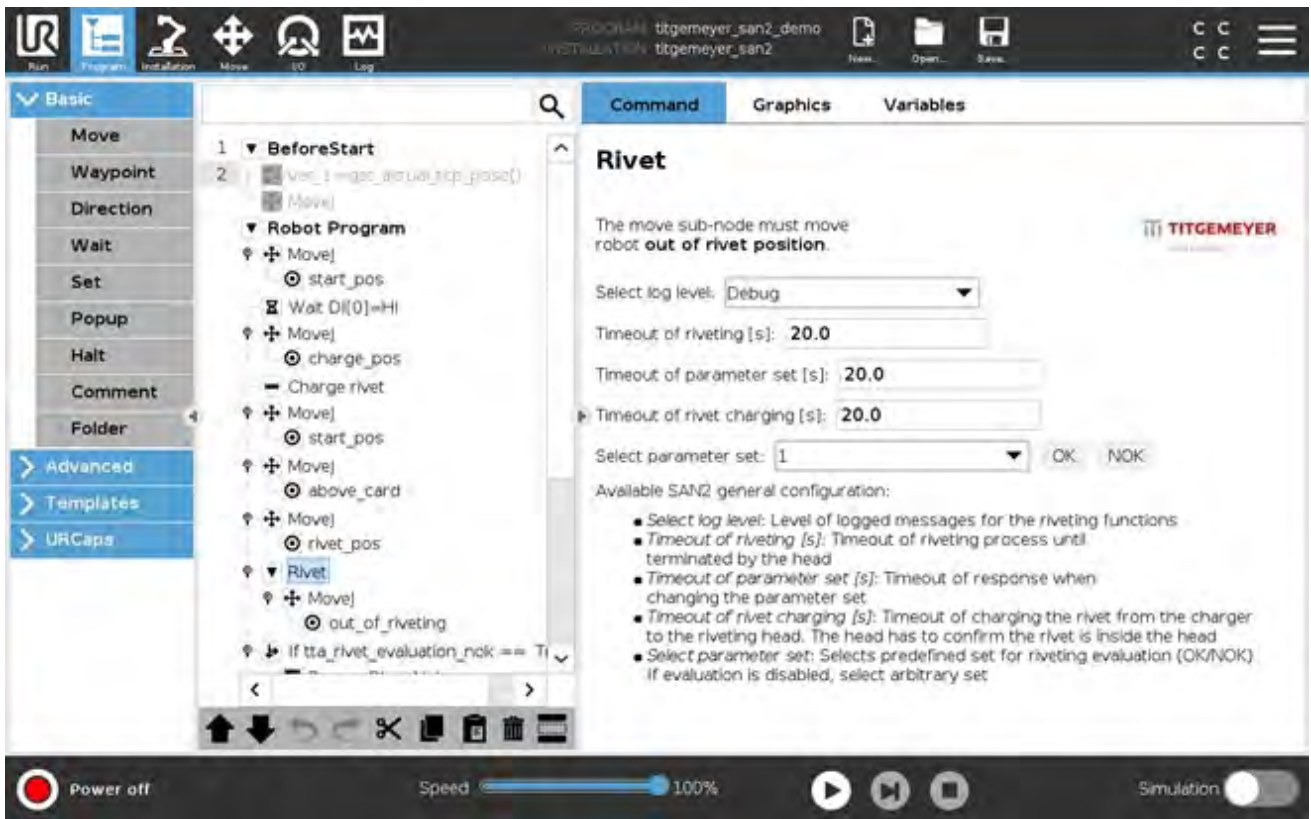
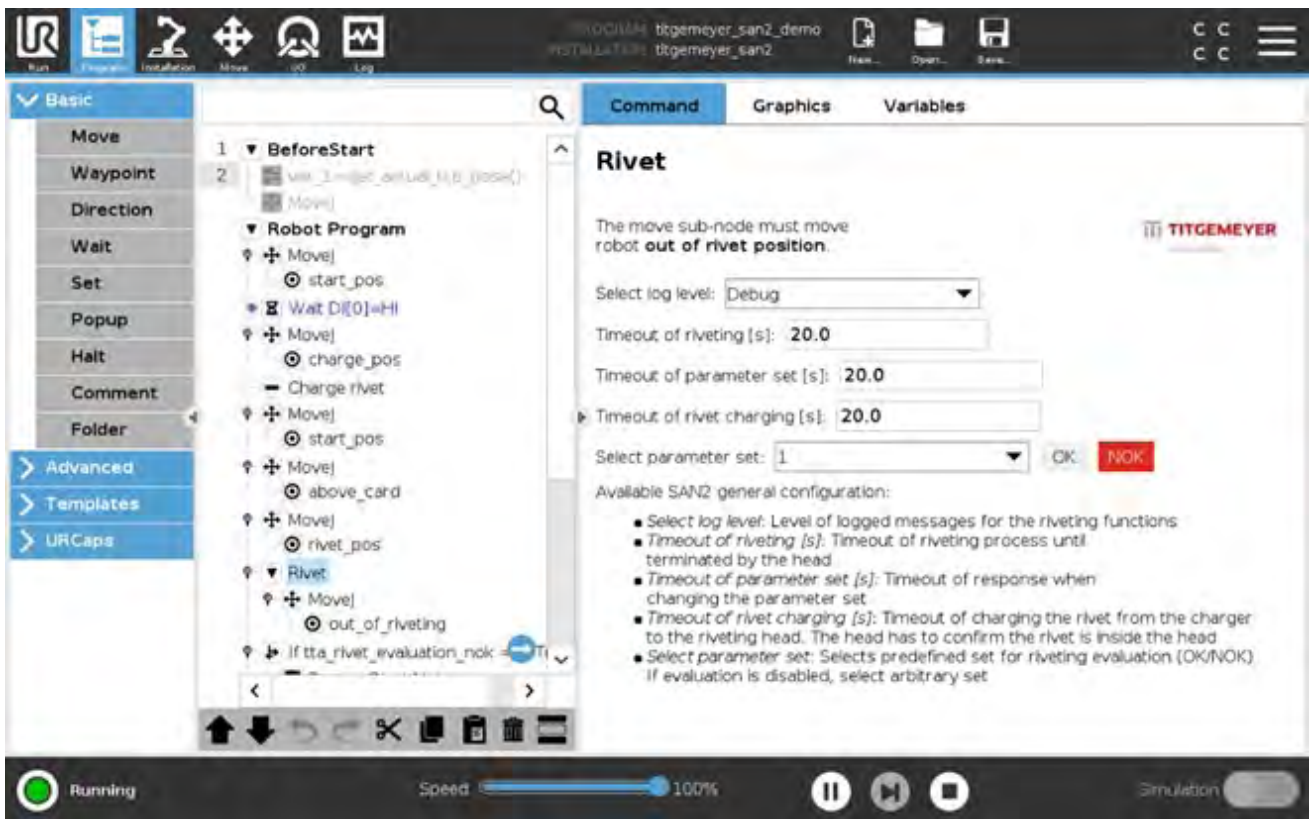
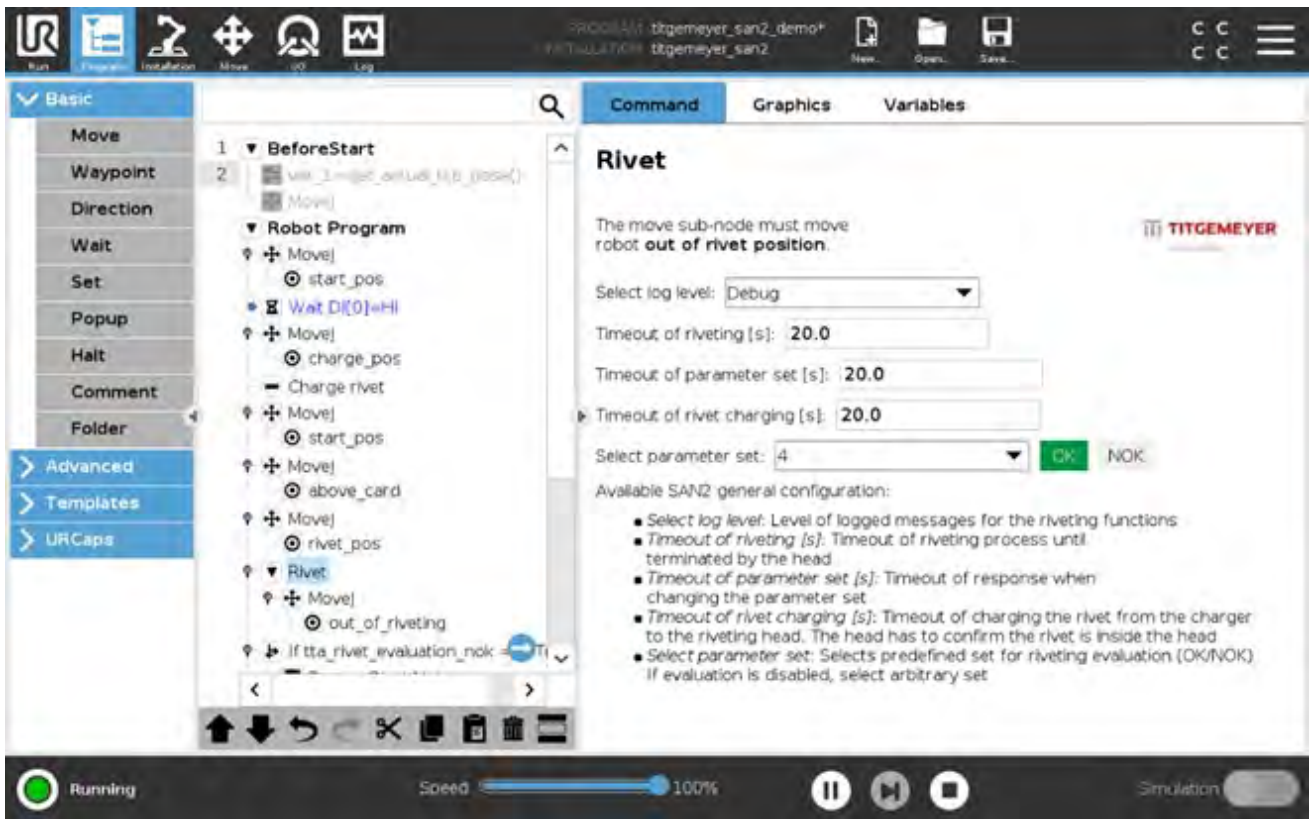
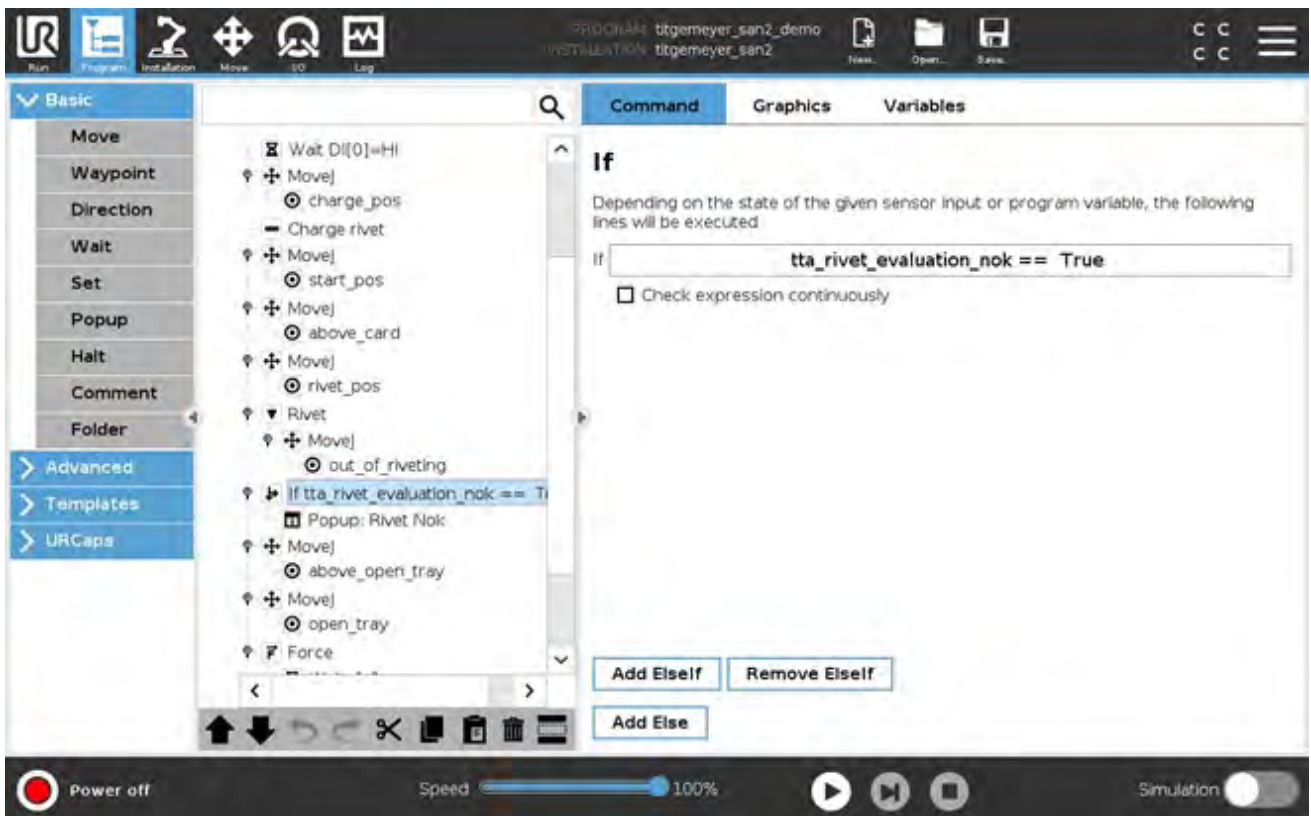

Figure 7 Rivet - program node (Polyscope 5)
Figure 8 Rivet node with NOK result active
Figure 9 Rivet node with OK result active
Figure 10 Further use of the provided global variable
- OK/NOK indicators - next to the Select parameter set combo box, two indicators are available. These indicators show the last result of the rivet evaluation - OK (active green) and NOK (active RED). In case an error occurred or the machine has not set the rivet yet, both OK and NOK are painted gray, see Figure 7, Figure 8 and Figure 9 **Chyba! Nenalezen zdroj odkazů.** The results of the evaluation are also available as global variables for further use. The variables' resolvable names are tta_rivet_evaluation_ok and tta_rivet_evaluation_nok. Example of variable further use is shown in Figure 10. In this example, the tta_rivet_evaluation_nok variable is checked in the IF condition and in case the rivet has been NOK, the program is paused and operator is informed by a popup message. Note, that the variables will not be updated if the evaluation module is not enabled.